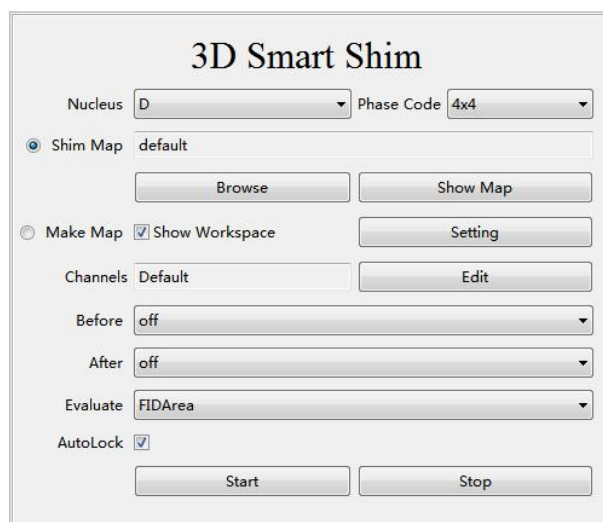

Figure 2.30 3D Smart Shim interface
The interface for 3D Smart Shim is shown in Figure 2.30. User can retrieve a saved map or create a new map for shimming.
1. Click **Acquire > Shim > 3D Smart Shimming**, or click the down arrow of  button on tool bar then select **3D Smart Shimming** to open **3D Smart Shim** window (Figure 2.30).
Whether using existing map or by making new map for Smart shim, combined use of search shim **Before** and **After** Smart Shim will result in much better field homogeneity. These options can be set in 3D Smart Shim panel (Figure 2.30)